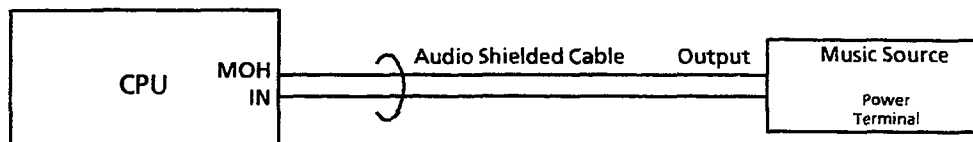

Figure 3-122 Music Source Connection
7. Connect the plug end into the CPU-F( )-20 KTU MOH jack. Refer to Figure 3-122 - Music Source Connection.